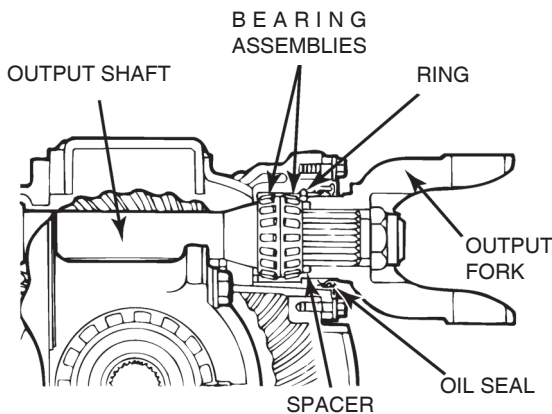

Figure 5.88
1. Apply axle lubricant to bearing caps and cones. Figure 5.88.